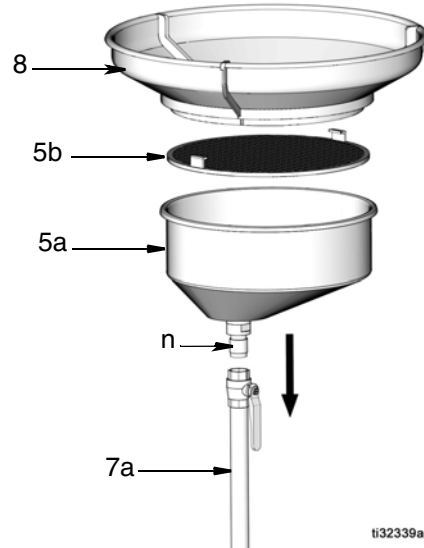

FIG. 13
10. Connect drain bowl (5a) to supporting tube (7a) and tighten screw (n) to secure (FIG. 13).
11. Install filter tray (5b) into drain bowl (5a) (FIG. 13).
12. Install the plastic funnel extension (8) over drain bowl (5a) (FIG. 13).